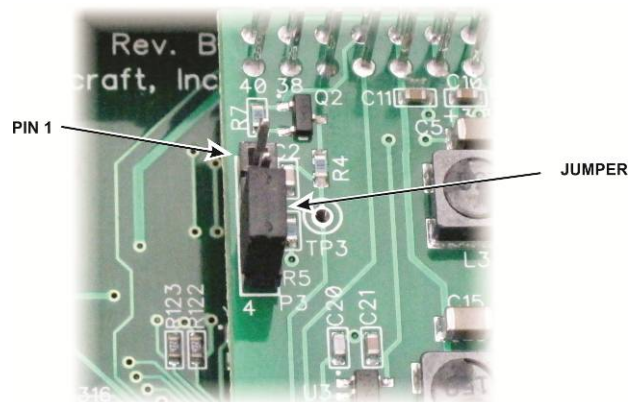

Figure 18. Power Control Jumper.
To configure the power control, loosen the four thumb screws and remove the PX3 rear panel. The jumper is located near the edge of the Power Supply (PS) board as shown in Figure 18.
Pins 3 & 4: Normal operation of the **PWR** switch. The jumper is shown in this position in Figure 18.